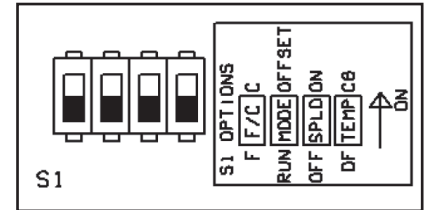

Fig. 10: Configuration Switches S1
* [CH3] and [CH4] are referenced to [GND] if (CG) is selected at time of order. [CH3] and [CH4] are referenced to each other if (DF) is selected at time of order.
** S1-4, Position (CG) connects [Temp-] terminal to the [GND] terminal internally. The (DF) position makes the [TEMP -] terminal floating. (See Fig.10)
*** This is the current output of the solid state sensor and must be configured as S1-4 set to (DF) to allow the 592 or 334 sensor to operate.
The four DIP switches on the bottom of the board called S1 configure four different parameters (see Fig: 10).